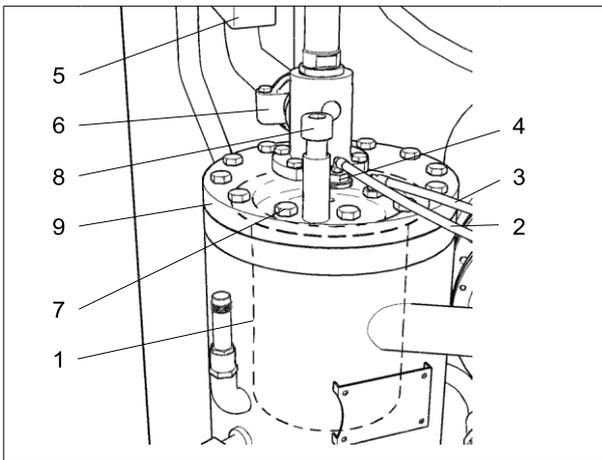

Fig. 21
- Detach the plastic oil scavenge line (-2- Fig. 21). Loosen and remove the scavenge tube (-4- Fig. 21)
- Detach the plastic pneumatic air lines (-3- Fig. 21).
- Remove all hexagon screws (-7- Fig. 21) on the circumference of the pressure reservoirs cover.
- The set screw for lifting the reservoir cover (-8- Fig. 21) must be screwed in clockwise until the cover is raised above the top of the reservoir.
- Remove the used fine oil separator (-1- Fig. 21).
- Screw the set screw (-8- Fig. 21) counter-clockwise until the reservoir cover is lying on the pressure reservoir flange
- Tighten the set screw used to raise the reservoir cover (-8- Fig. 21) to prevent it loosening.